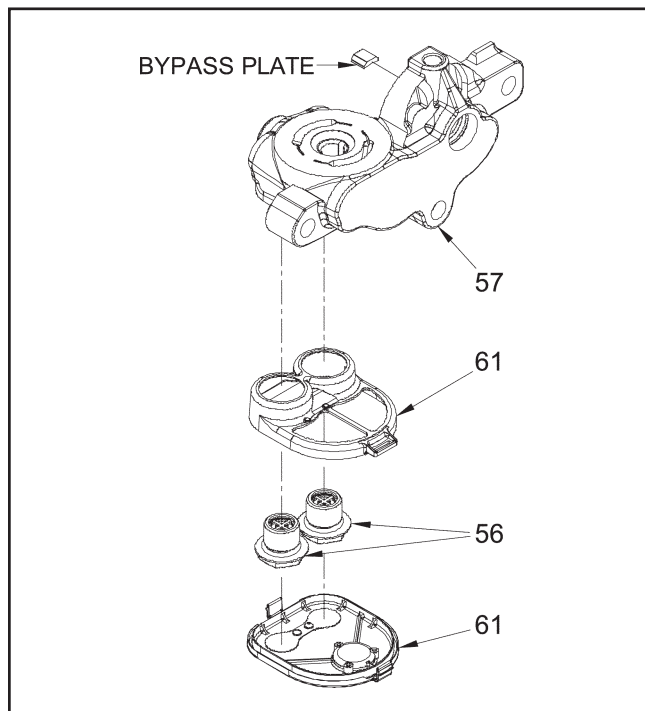

Figure 18.
3. **(See Figure 18)** Install the new filter base (61) onto the center section (57).
4. It will be necessary to clean the check plugs prior to re-assembly. Install the check plugs (56), in their correct location, into the center section (57). Tighten the check plugs according to Table 6.
5. Align the tabs on the filter cover with the slots in the filter base and carefully press the cover onto the base until the tabs snap into place. Insure the bypass plate (Figure 18) is located properly in the center section.